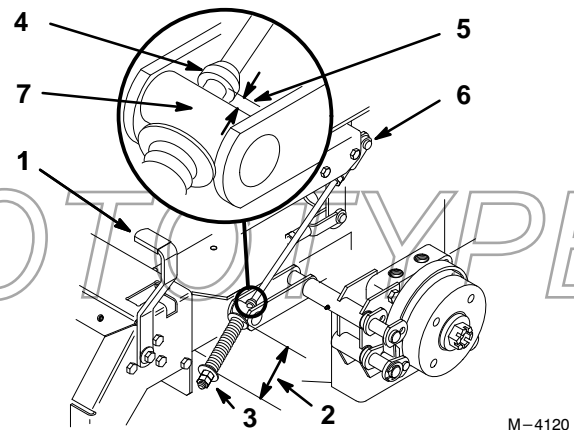

Figure 47
2. Measure the length of the spring. Measurement should be 2.75" (74 mm) between washers (Fig. 47).
3. If adjustment is necessary, loosen the jam nut below the spring and tighten the nut directly below the yoke (Fig. 47). Turn the nut until the correct measurement is obtained. Tighten the two nuts together and repeat on opposite side of unit.
6. Measure the distance between the trunnion roller and the collar on brake rod. Measurement should be 3/16"–1/4" (5–7 mm) (Fig. 47).
7. If adjustment is necessary, loosen the jam nut directly below the yoke. Turn the bottom adjusting nuts until the correct measurement is obtained (Fig. 47). Tighten jam nut at yoke